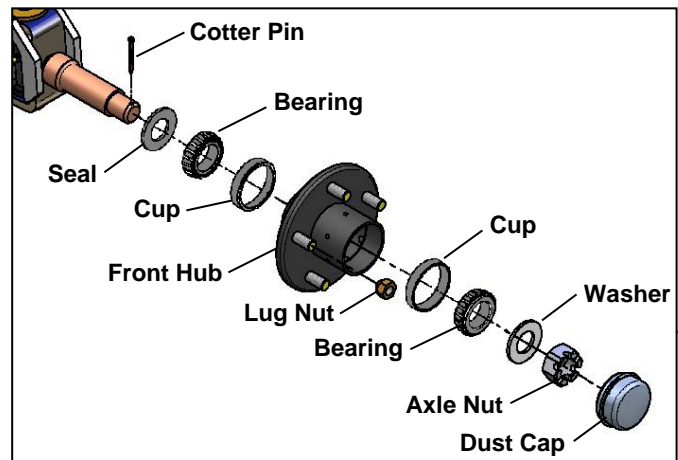

Figure 6-4
3. See Figure 6-4. Remove the cotter pin dust cap and axle nut. Remove washer, bearings, cups, seal and the hub.
2. As shown in Figure 6-4 reassemble the wheel hub and place on spindle.
- As shown in Figure 6-4 reassemble the components and place on spindle.